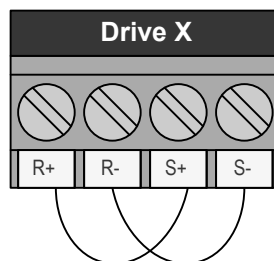

Figure 4.12 Drive Terminal Jumpers
1. Jumper terminals (R+ to S+) and jumper terminals (R- to S-) terminals on each individual drive according to Figure 4.12.